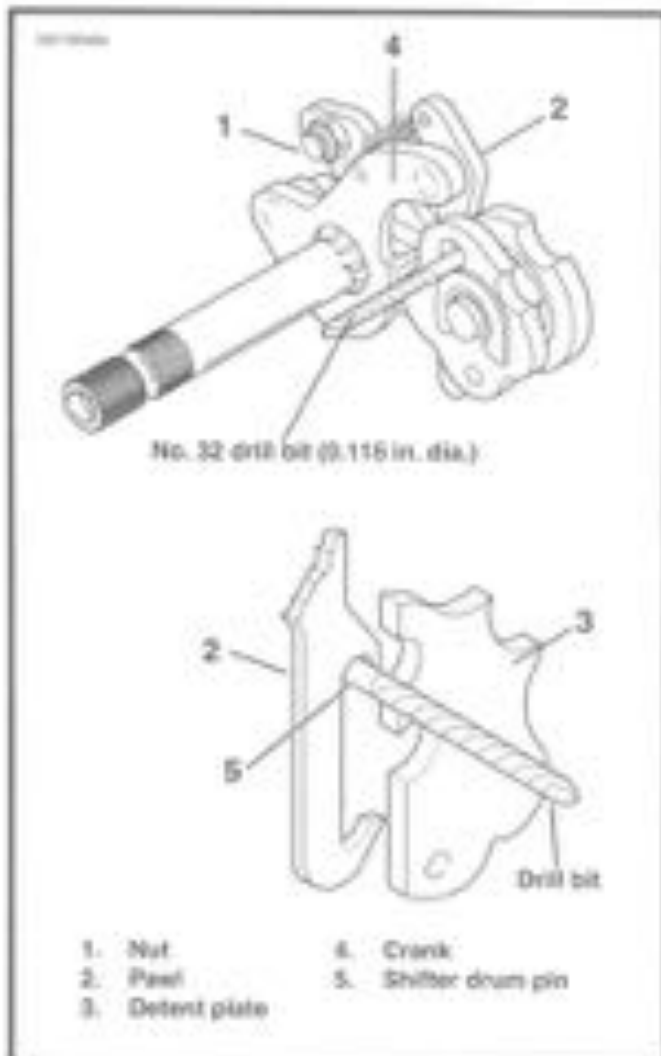

Figure 6-52. Shifter Shaft Assembly Alignment
- Lift pawl (2) over drum pins, and place shifter shaft assembly (6) on studs at transmission case. Loosely install a washer (11) and locknut (3) on each stud.
- Attach the loop of spring (1) over and into groove in pawl (2).
- Place detent plate (9) over drum pins. Rotate plate until blind holes in plate align with pins in end of drum shaft. Install new retaining ring (10) using **TRANSMISSION SNAP RING TOOL** (Part No. HD-39151). Verify that retaining ring is fully engaged with drum groove.
- See Figure 6-52. Place transmission in third gear. Place a No. 32 drill bit (0.116 in. dia.) through hole in detent plate (3), and between pawl (2) and drive pin at end of shifter drum shaft. Push down top of crank (4) to remove all clearance between pawl and drill bit. This will correctly align pawl to shift drum pins (do not push down with too great a force, as this might cause the shifter drum to rotate). With bit in place, tighten shifter shaft assembly bottom nut (1) first to 90-110 in-lbs (10.2-12.4 Nm) torque. Then, tighten shifter shaft assembly top nut (1) to the same torque. **Remove drill bit.**